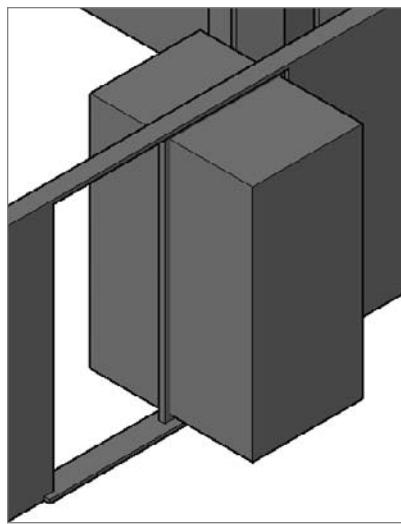

FIGURE 16.51 The first sliding-door frame and block-out
5. Create a block-out that is 4' (102 mm) smaller than the width and height of the frame you just drew, but significantly deeper. Then center it on the window frame, as shown in Figure 16.51.
N O T E The Conceptual visual style is used in Figure 16.51 as a matter of clarity. Often the opaque nature of the conceptual style makes objects easier to interpret, whereas at other times the transparent nature of the X-Ray visual style is preferred. Your choice will likely change based on the task at hand.